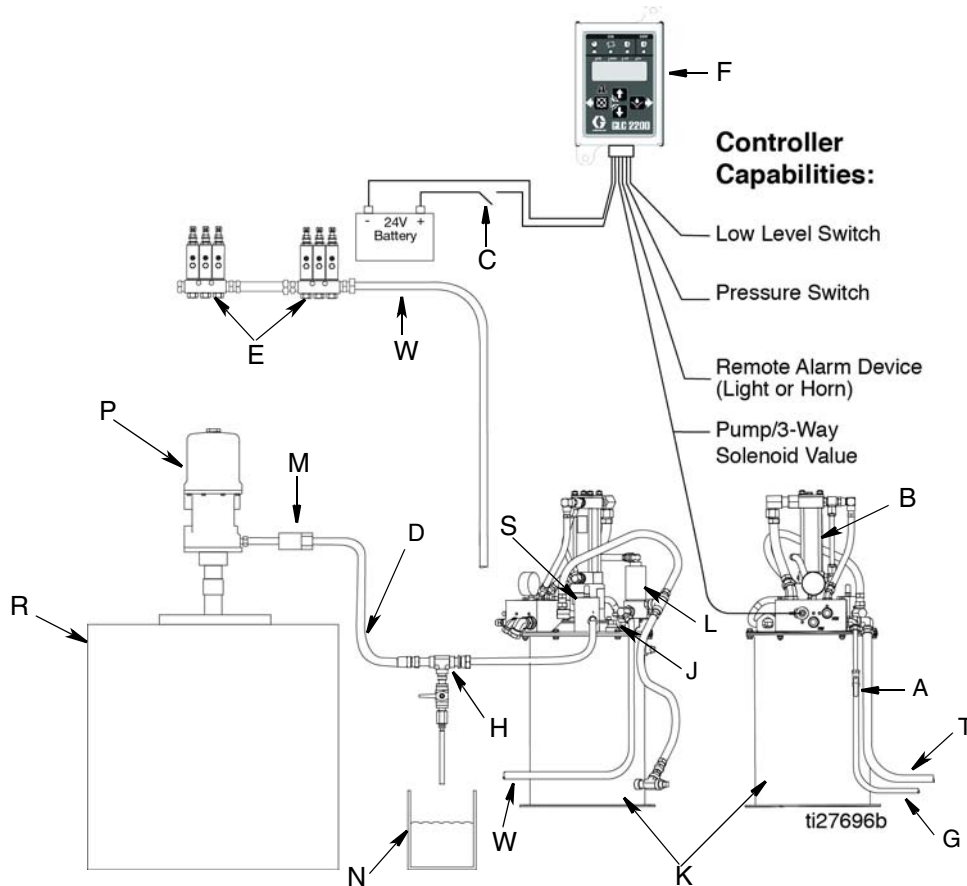
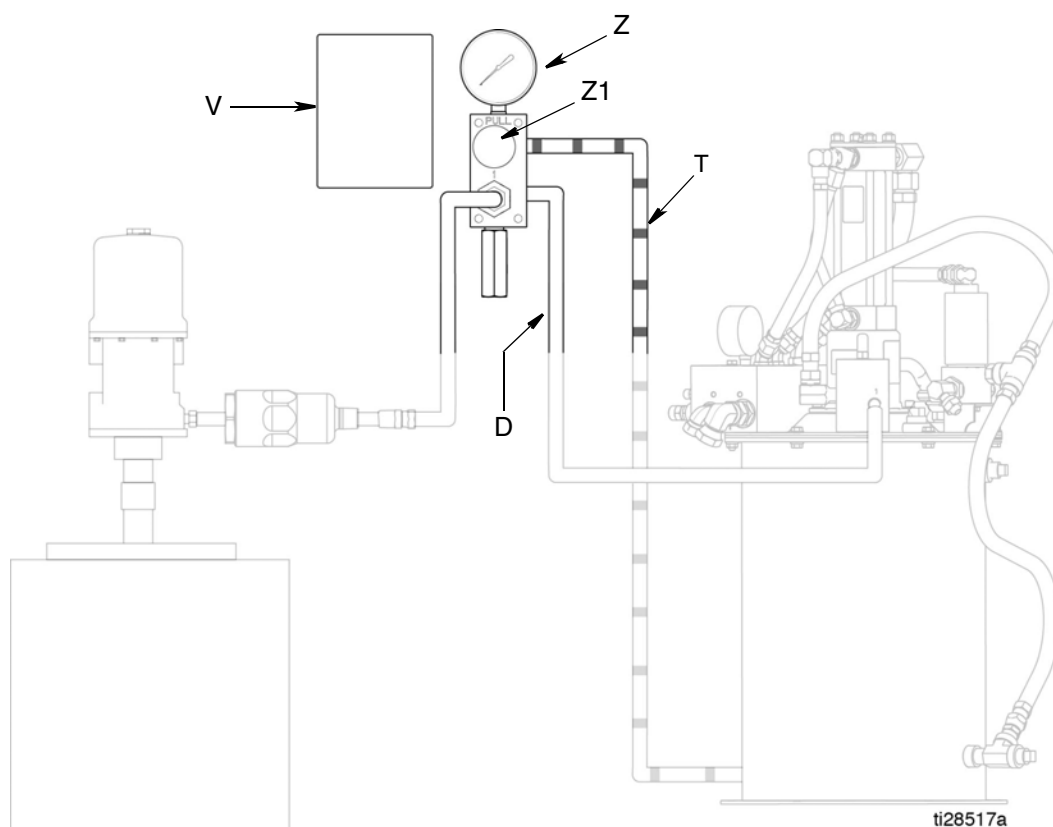
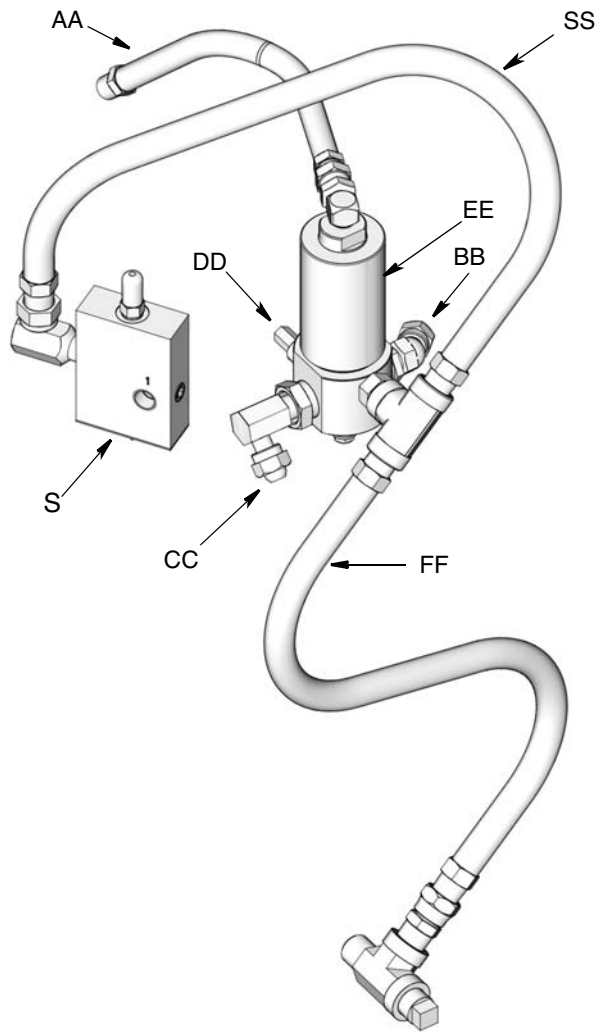
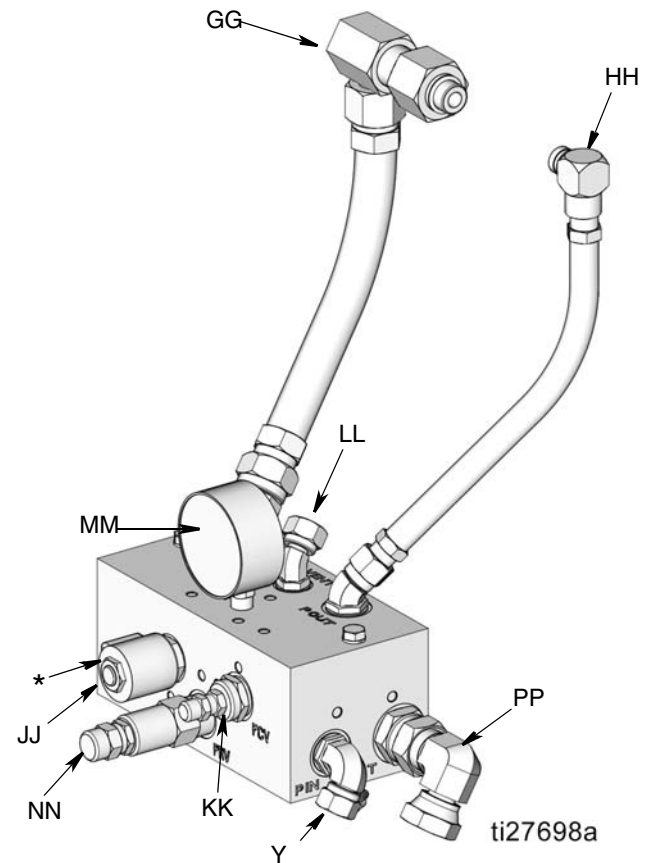

FIG. 2
FIG. 3
FIG. 4
FIG. 5
Mount reservoir (K) (FIG. 2, page 6) to a grounded chassis member.
- The hydraulic system must be depressurized before connecting high pressure lubricant supply lines (W).
- Be sure breather (J) is not plugged before filling reservoir (K).
1. Install Ball Valve (A) (user provided) in the 3/8-inch High Pressure Hydraulic Line (G) (FIG. 2, page 6).
2. Connect the 3/4-inch hydraulic tank line (T) (FIG. 2, page 6) to the tank hydraulic connection swivel (PP) (FIG. 5, page 8).
3. Connect the 24 VDC timer controlled signal to the 3-way solenoid valve (JJ) (FIG. 5, page 8).
4. Connect high pressure lubricant supply line (W) (FIG. 2, page 6) to the lubricant output connection (CC) (FIG. 4, page 8).
6. Connect the 3/8-inch high pressure hydraulic line (G) (FIG. 2, page 6) to the high pressure hydraulic connection swivel (Y) (FIG. 5, page 8).
To relieve the stall pressure in the refilling line (D) a pressure relief valve (H) (FIG. 2, page 6) or a fill valve (Z) (FIG. 3, page 7) **must** be installed in the system.
NOTE: The components highlighted in FIG. 3 identify the unique features in a Fill Valve installation. See Typical Installation on page 6 for a complete list of the other system components.
NOTE: Unless otherwise noted, the reference letters used in the following instructions refer to FIG. 2, page 6.
- Open pressure reducing valve (NN) to reduce trapped hydraulic pressure (FIG. 5, page 8).
- NOTE:** The gauge (MM) on control module should read zero pressure after performing this step.
3. Disconnect power from lubrication controller (F).
4. **Relieve pressure** in high pressure supply lines (W) using two wrenches working in opposite directions to **slowly loosen fitting only** until fitting is loose and no more lubricant or air is leaking from fitting.
1. Upon receiving a signal from a 24-volt lubrication controller (F), the 3-way solenoid valve opens, starting the pump (B) and closes the vent valve (L).
2. The pump builds pressure until the pressure switch in the system sends a signal to the lubrication controller (F) ending the cycle, or the pump (B) stalls.
3. The lubrication controller (F) terminates the 24-volt signal to the 3-way solenoid valve.
4. The 3-way solenoid valve closes, stopping the pump (B) and opening the vent valve (L) into the reservoir (K).
5. The pressure reducing valve (NN) and flow control valve (KK) control the pump output pressure and cycle rate (FIG. 5, page 8).
1. Connect refilling line (D) from remote filling station pump (P) to the Auto-fill Shutoff inlet (FIG. 2, page 6).